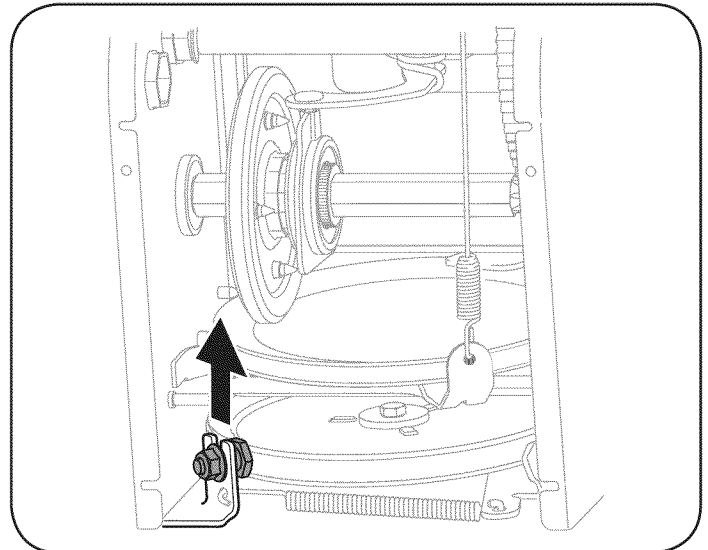
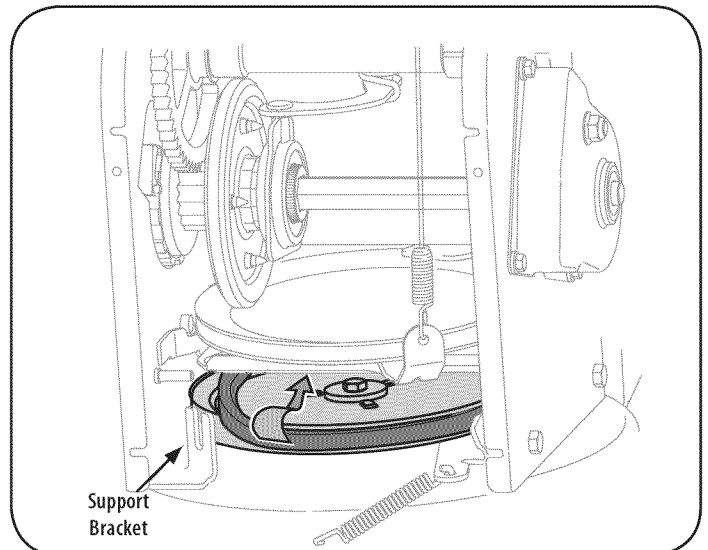

Figure 34
Figure 35
7. Loosen and remove the shoulder screw which acts as a belt keeper. Refer to Figure 34.
8. Remove the belt from around the auger pulley, and slip the belt between the support bracket and the auger pulley. See Figure 35.
NOTE: Do NOT forget to reinstall the shoulder screw and reconnect the spring to the frame after installing a replacement auger belt. See Figure 34 and Figure 35.